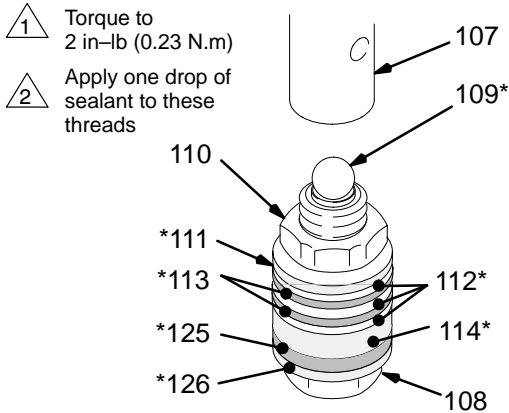

Fig. 19
3. Tighten the nut (110) onto the piston valve (108) to 2 in-lb (0.23 N.m). See Fig. 19.
5. Place the ball (109*) on the piston valve (108). See Fig. 19.